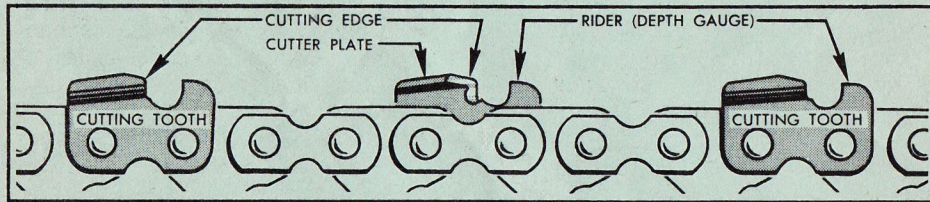

Figure No. 7
4. Look carefully at the chain illustration (Figure No. 7) and you will notice that the cutting teeth are not